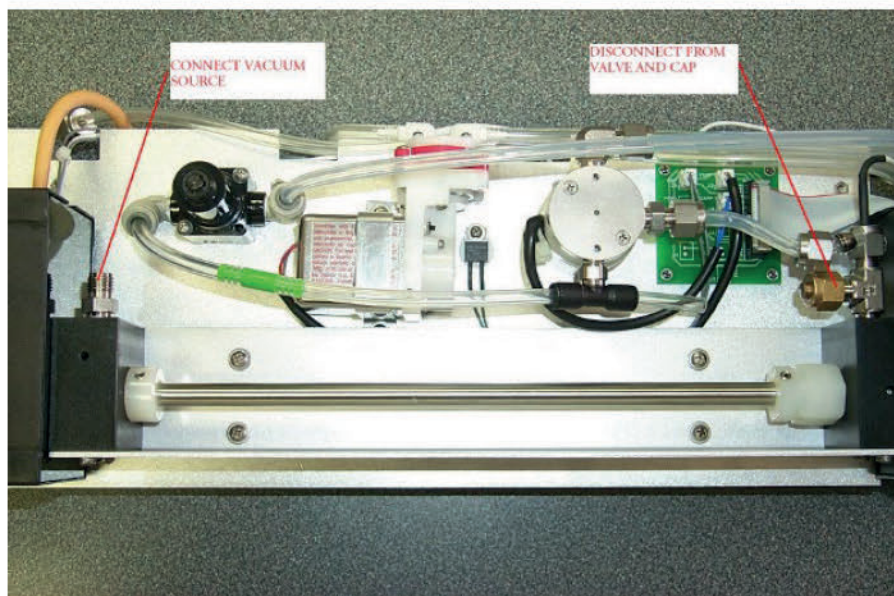

Figure 26: Photometer and Leak Check Setup.
4. Plug the "Sample-In" port located on the photometer rear panel (see Figure 26 below) using a 9/16 inch wrench to tighten the plug.
6. Turn on the vacuum source and allow the pressure gauge to reach approximately 15-25 TORR. If the pressure changes by more than (1) TORR in five minutes, there is a leak. Fix the leak before doing any calibration on the 4010.